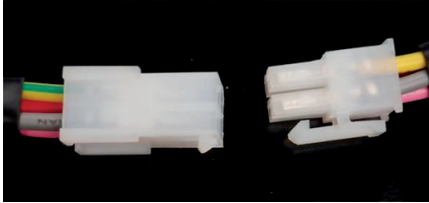

Figure. 3.5 (motor wire)
⑤ Connect the 4-core motor connection wire on the inverter with the one on the extension tube, buckle the plastic plug (see Figure 3.5)
② Connect the 4-core motor connection wire on the motor with the one on the extension tube, buckle the plastic plug (see Figure 3.5)